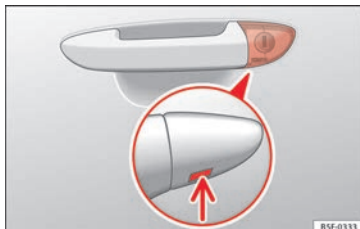

Fig. 3 Driver door lever: hidden lock cylinder.
- Insert the key blade into the lower opening in the cover on the driver door handle » Fig. 3 (arrow) then remove the cover upwards.